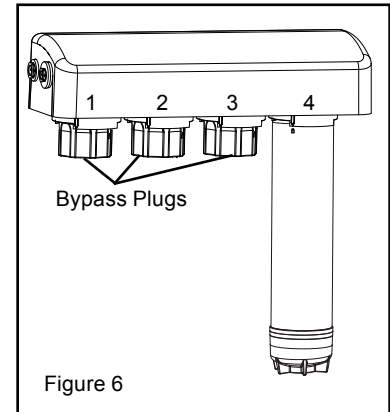

Figure 6
1. Insert the GAC pre-filter cartridge into port 4 so that Carbon fines are not sent throughout the manifold. (Figure 6)
2. Insert the bypass plug into ports 1, 2, and 3. (Figure 6)